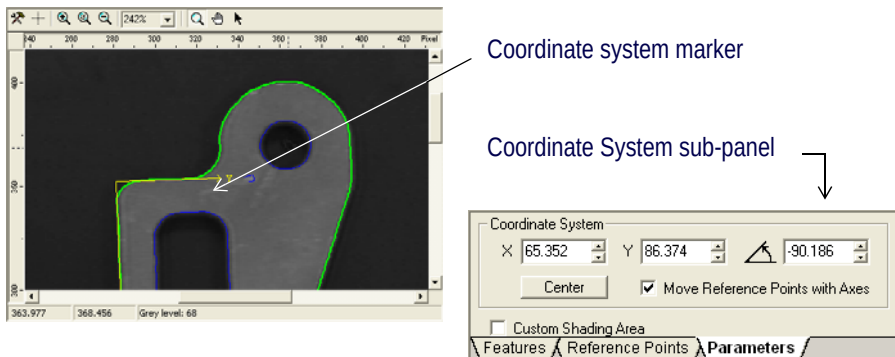

Figure 59 Adjusting the Position and Orientation of the Model Coordinate System
3. Use the mouse to position the coordinate system marker (yellow axes) over the object, as shown in Figure 59.